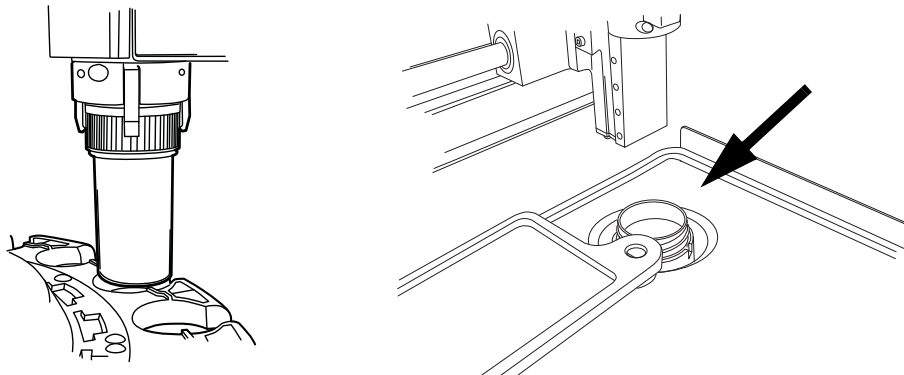

Figure 9-5 Release Vial, Check Dispersion Well
The vial gripper fingers remain closed in an error condition, so that a vial will not drop. Move the vial transport arm toward the middle of the instrument and then press the **Release Vial Cap** button to open the gripper and retrieve the vial. See Figure 9-5.
**Note:** Often just the vial cap is in the mechanism. Carefully check the dispersion well and retrieve the vial, if necessary. Manually recap the vial. See Figure 9-5.